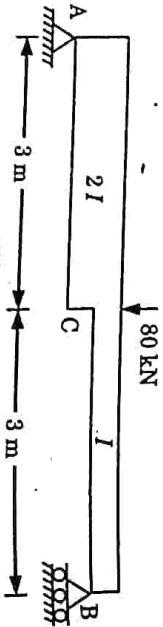

Fig. 3.21.1.
- Que 3.21.** Determine the slopes at supports and deflection under the load for the beam shown in Fig. 3.21.1. Take Young's modulus  $E$  as 210 GPa, moment of inertia as  $120 \times 10^6 \text{ mm}^4$ . Adopt conjugate beam method.